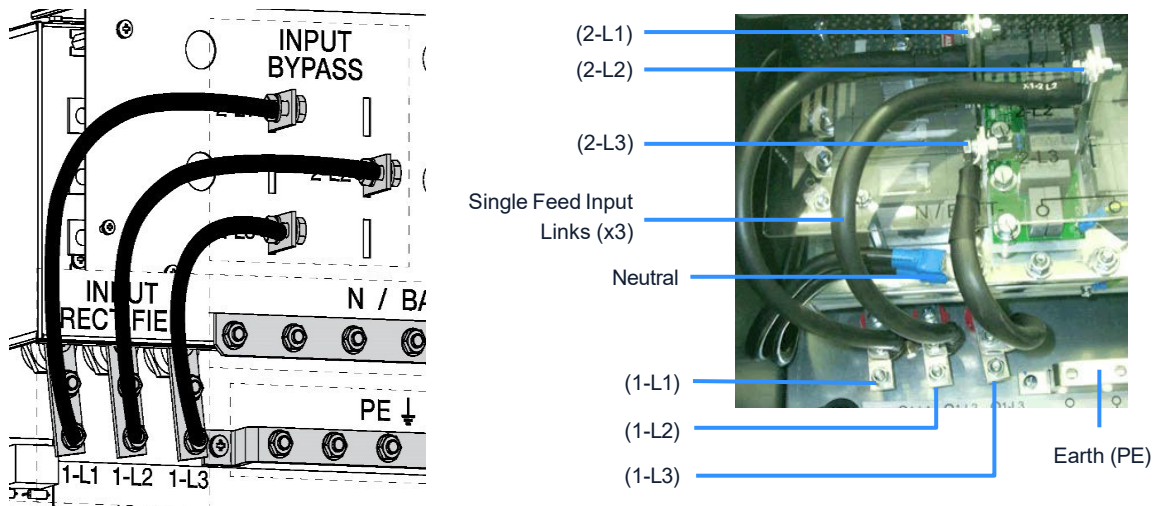

Figure 4.5 Single-feed links
When the UPS is configured for a single-feed input (standard), links are fitted between the input mains supply terminals the bypass mains supply terminals (2-L1, 2-L2, 2-L3), as shown in Figure 4.5.
2. Connect the earth cable from the mains distribution board to the UPS protective earth (PE) busbar – see Figure 4.5.
3. Ensure the single-feed links are connected between the input supply terminals and bypass input terminals (1-L1 to 2-L1, 1-L2 to 2-L2 and 1-L3 to 2-L3) – see Figure 4.5.
6. Remove the single-feed links if fitted – see Figure 4.5.